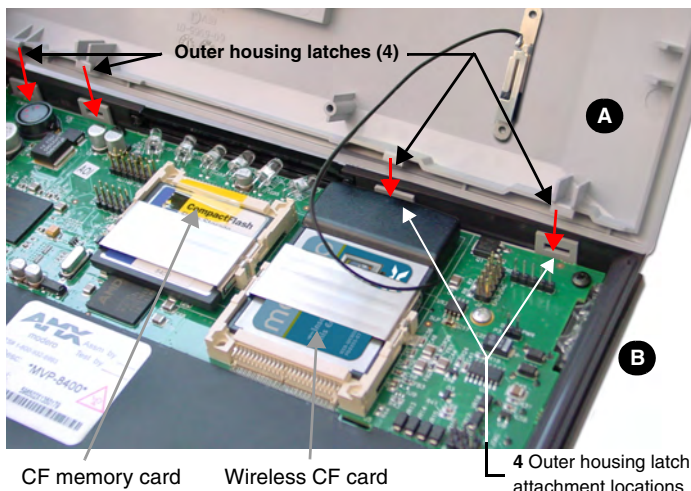

FIG. 5 Wireless CF card and outer housing latch attachment locations
1. Reinstall the dark grey trim along the top rim of the board (B in FIG. 5).
2. While angling the top rim of the MVP's rear outer housing (A in FIG. 5) down toward the IR Emitters, insert the four outer housing latches into their corresponding attachment locations along the top rim of the MVP panel (two on either side of the IR Emitters).
5. Firmly press down around the entire rim of the outer housing to snap the cover back into place (FIG. 5).
8. Grab the battery cover and align it over the edges of the battery compartment. Apply downward pressure to the traction grooves on the Battery Compartment cover and slide it back towards the metal plate to reinstall the cover (FIG. 5).